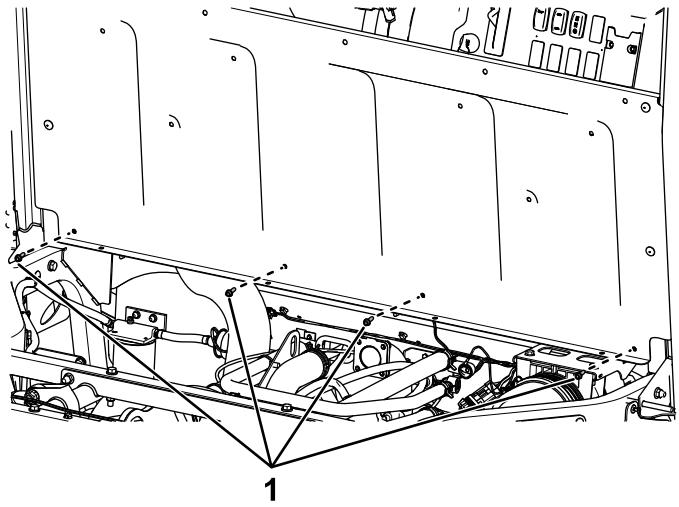

Figure 19
14. Secure the seat panel to the rear frame crosslink channel using 4 hex-washer head bolts (1/4 x 3/4 inch) as shown in Figure 19.